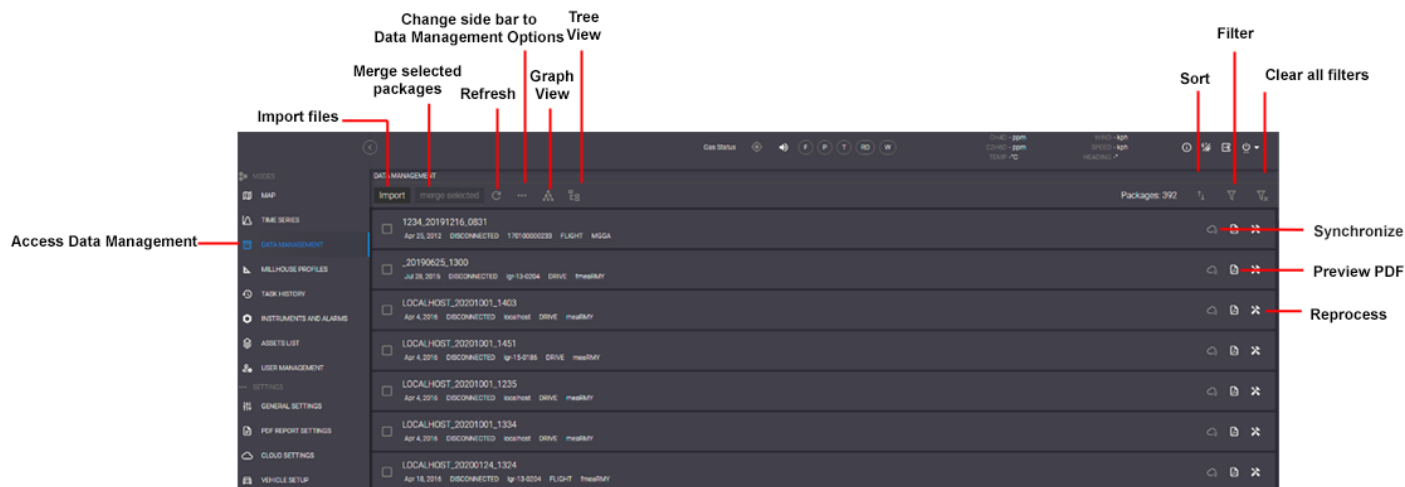
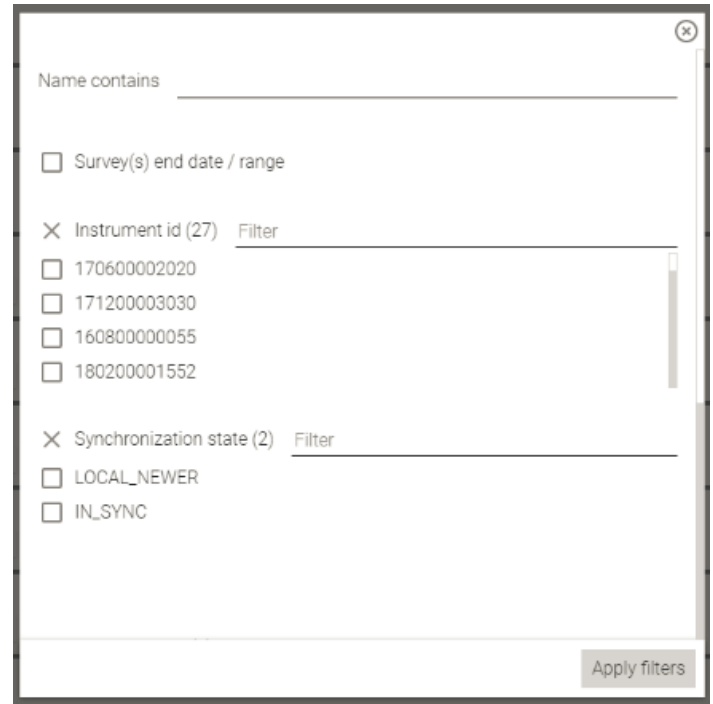
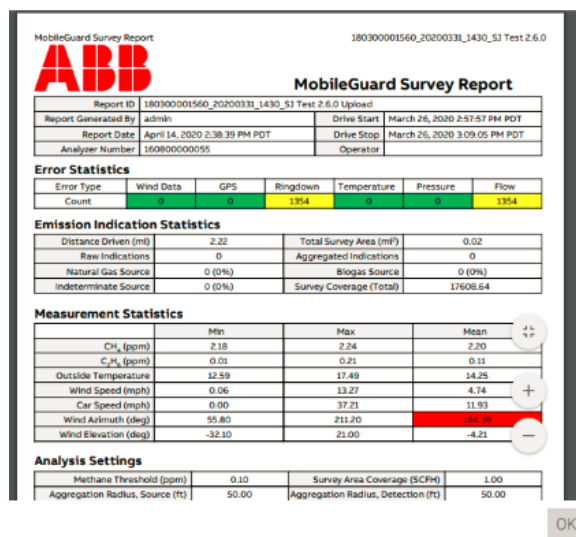
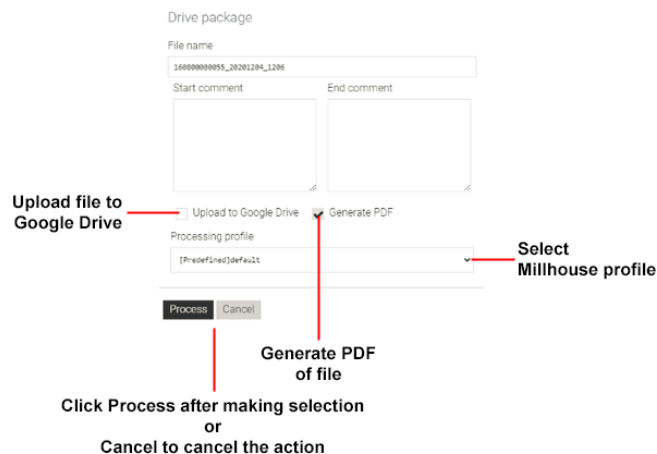

Figure 27 Data Management Screen
Figure 33 Data Management Filter Window
Figure 35 PDF Report Example
Figure 36 Reprocess Window
The *Data Management* screen is the first screen displayed after *COMMAND CENTER* admin users log in. See Figure 27. (For details on user license types, refer to “License Types”. For details on logging in, refer to “Login Screen”).
On the sidebar, select **Data Management** to access the screen shown in Figure 27.
Click **Import** (see Figure 27) to add analyzer raw data files to the list.
- 2 Click **merge selected** (see Figure 27).
- 1 Click the **Filter** icon (see Figure 27): The screen shown in Figure 33 appears.
To remove all search filters currently being used, use the **Clear All Filters** button (see Figure 27).
Select a file's **Synchronize** icon (see Figure 27) to store a file's current data in the cloud and locally (IN_SYNC state).
Click the **Preview PDF** icon (see Figure 27) to preview the PDF report of the drive package. See Figure 35 for an example of a report.
Select a file's **Reprocess** icon (see Figure 27) to reprocess the package. The Millhouse profile can be selected before processing. The window in Figure 36 appears.